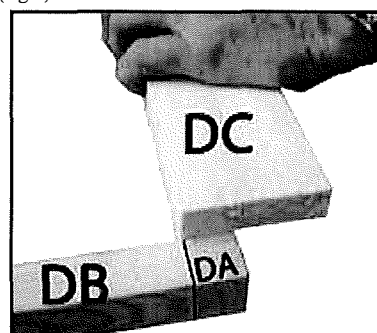

Fig 5
- 9 Place one of the DC parts on top of the A parts level with the inside of the frame (fig 5).